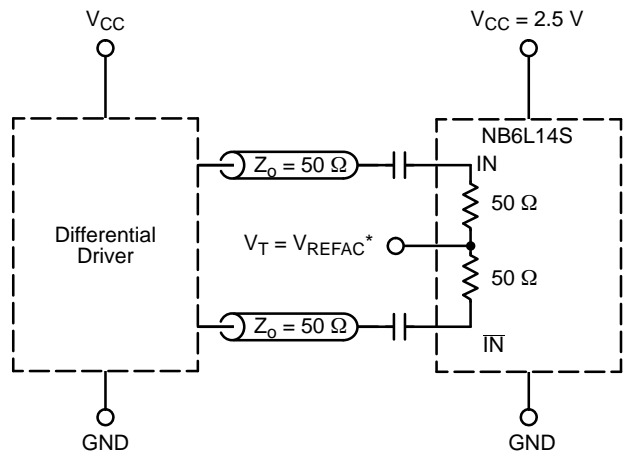

Figure 17. Capacitor-Coupled Differential Interface (V_T Connected to V_{REF_AC})
DIFFERENTIAL INPUTS DRIVEN SINGLE-ENDED (Figures 17, 18, 22, and 24)
- V_{REFAC} used to rebias capacitor-coupled inputs only (see Figures 17 and 18).